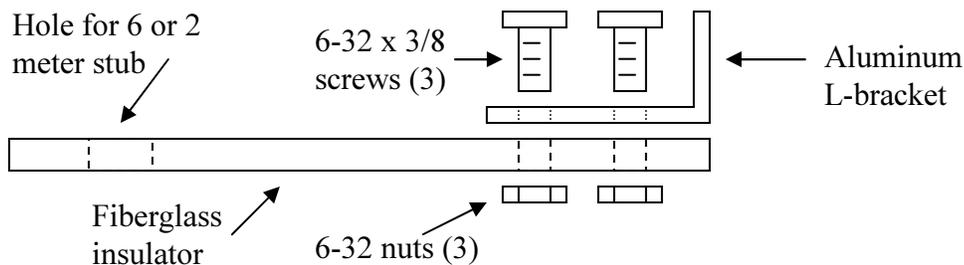

Figure 1
- 5) Assemble the four small "L" brackets to the four long fiberglass insulators with 6-32 x 3/8" screws (3 each) and the 6-32 kep nuts (3 each) as shown in Figure 1.